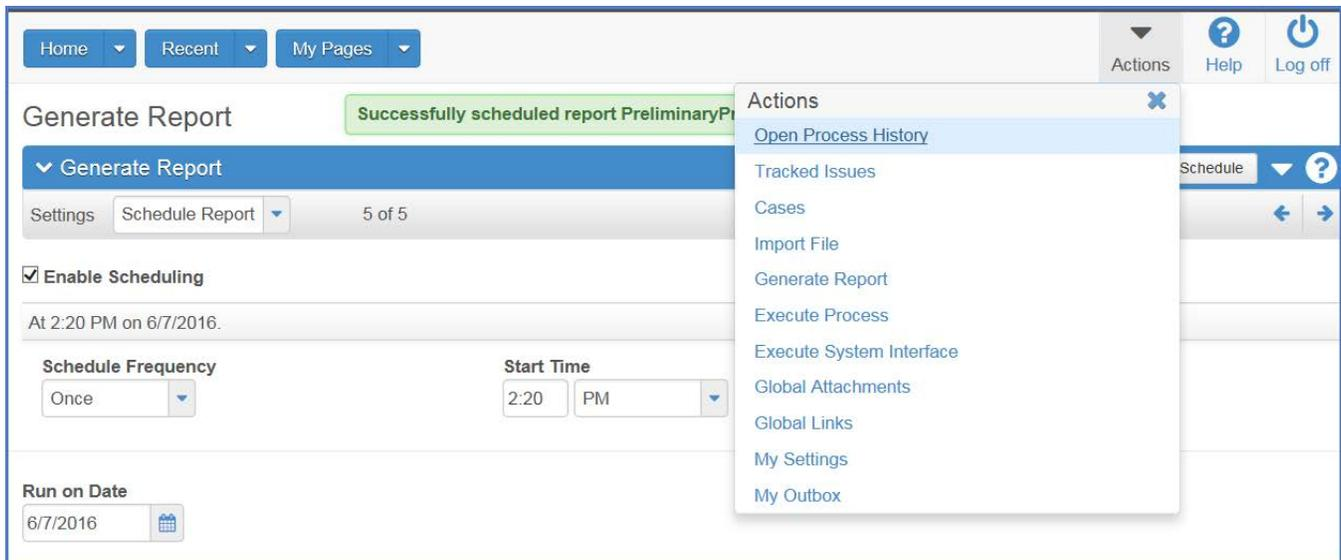

Figure 20
2. Select **Global Actions | Open Process History** (Figure 20).